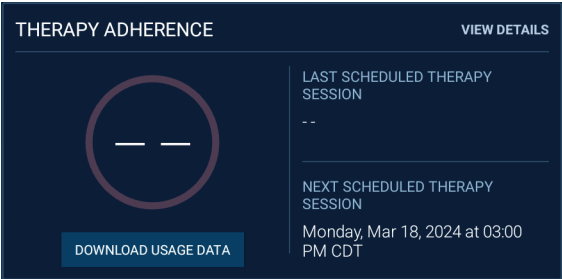
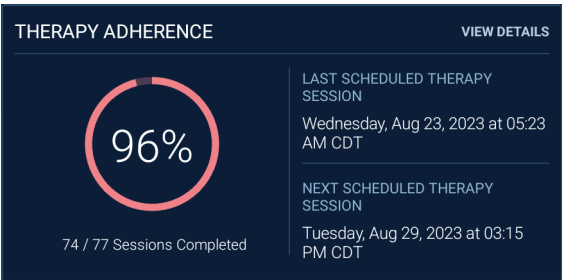

Figure 35. Therapy Adherence panel before data is downloaded
Figure 36. Therapy Adherence panel after data is downloaded
On the dashboard, the Therapy Adherence panel (Figure 36) shows information about therapy adherence (as a percentage determined by the number of sessions fully completed/total number of sessions initiated) over the last 6 months.
- Tap **DOWNLOAD USAGE DATA** on the Therapy Adherence panel (Figure 35) to display data (Figure 36).